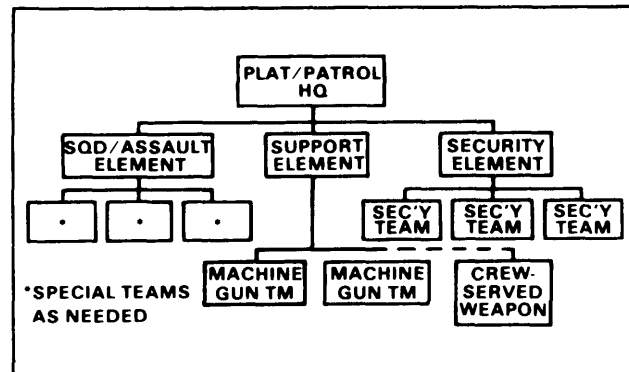

Figure 1-15. Typical organization for a raid patrol
**Raid.** Raid patrols destroy or capture personnel, equipment, and/or installation. (Figure 1-15, page 1-9).